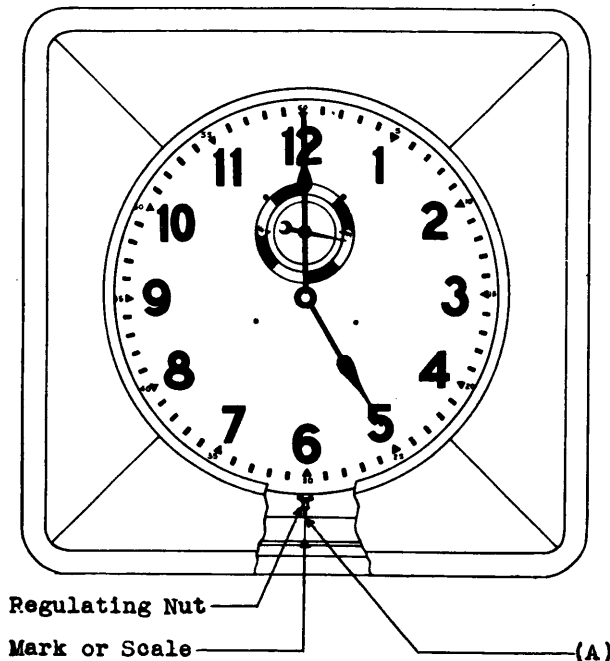

Fig. 2 - Face View (KS-6777 and KS-6778)
*2.03 Mounting - Fig. 2 (A): The clock shall be mounted so that, when the pendulum is at rest, the pendulum rod is parallel to the back of the case and the lowest point of the pendulum lines up with the center line of